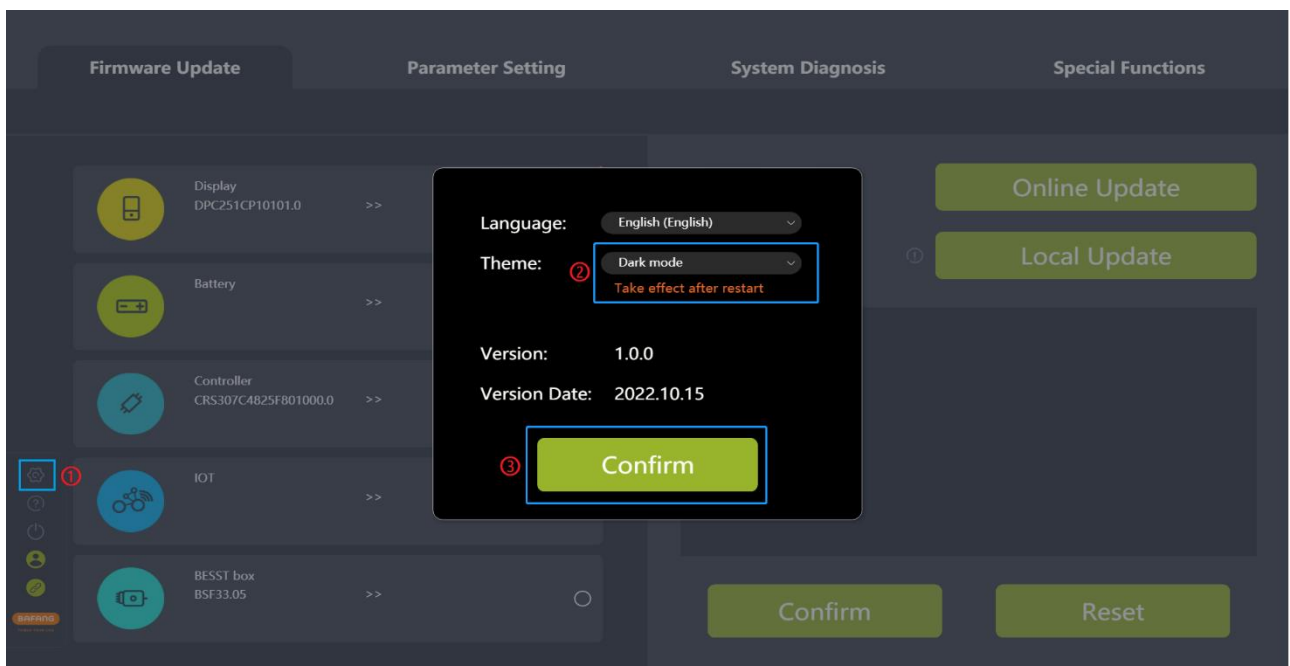

Fig. 8-4 Theme
- (1) Select the "Settings" icon;
- (2) Select the desired theme in the drop-down list (e.g. Fig. 8-4);
- (3) Click the "Confirm" icon;
- (4) Restart the software and the selected theme will take effect.